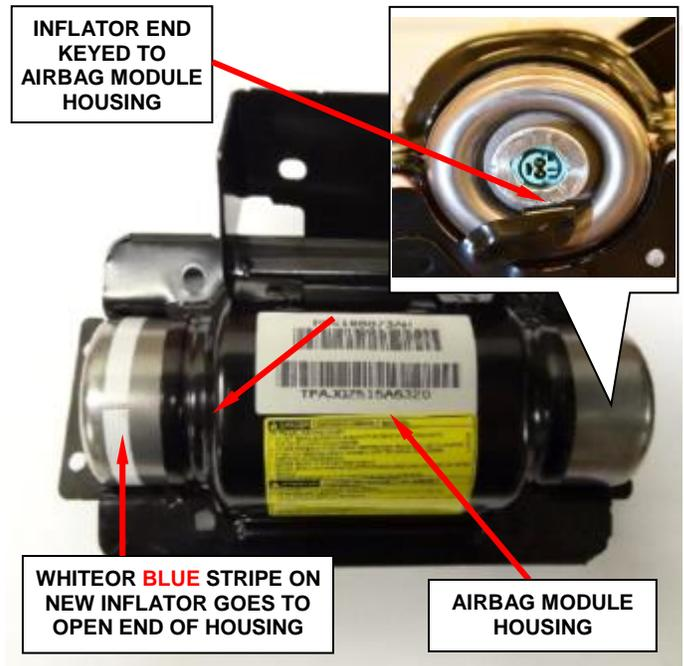

Figure 37 – Install New Inflator to Housing
NOTE: The inflator’s key MUST line up with the housing’s key (Figure 37).
1. Slide the **NEW** inflator into the passenger airbag module housing. The keyed end is inserted first; therefore, the white stripe on the **NEW** inflator will be located at the open end (Figure 37).